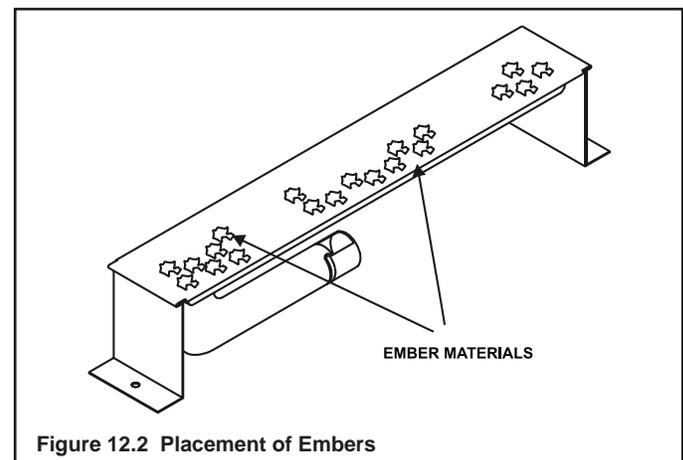

Figure 12.2 Placement of Embers
- When placing Glowing Embers[®] onto the burner care should be taken so that the ports are not covered. Place the dime-size ember pieces about 1/2 inch apart near port holes in burner top, but not on or in between the ports. For best performance do **NOT** place embers on ports at rear of burner (see Figure 12.2). Failure to follow this procedure will likely cause lighting and sooting problems.